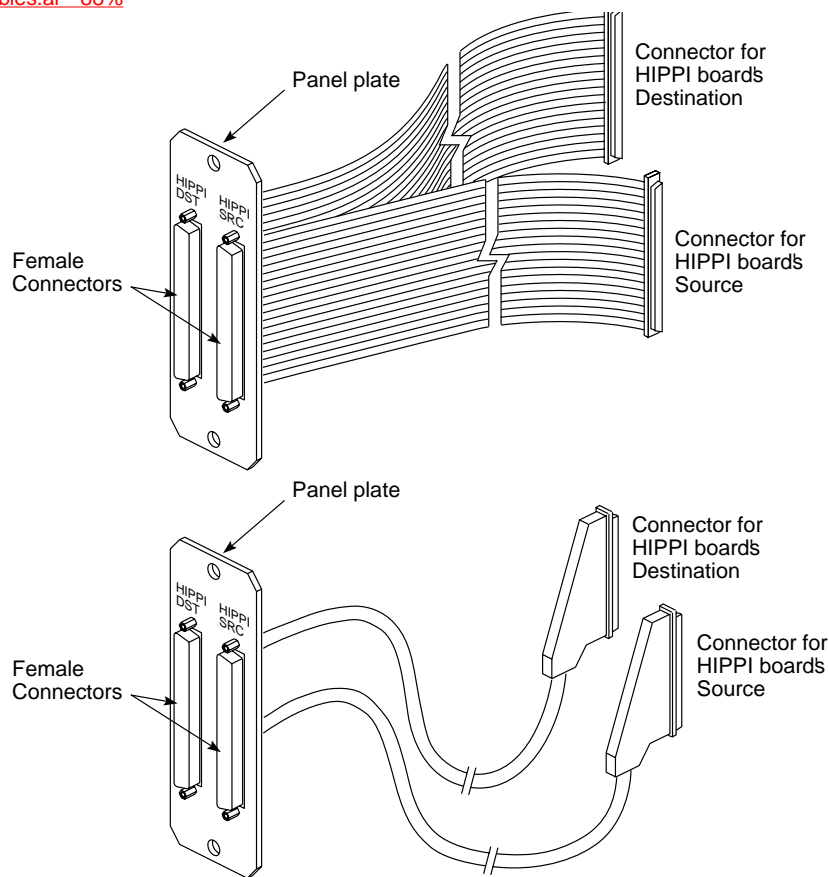

Figure 2-14 Internal HIPPI Cable Assembly (Two Different Styles)
1. Locate the internal cable assembly that consists of the HIPPI I/O panel plate with two internal HIPPI cables attached. The cable assembly is one of the styles shown in Figure 2-14.